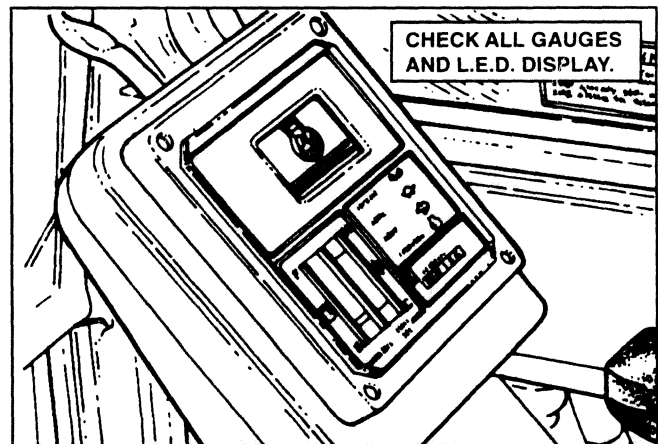

FIGURE 4.37
4. Check all Gauges and L.E.D. Display on the Gauge Cluster Display for proper operation. See Figure 4.37.